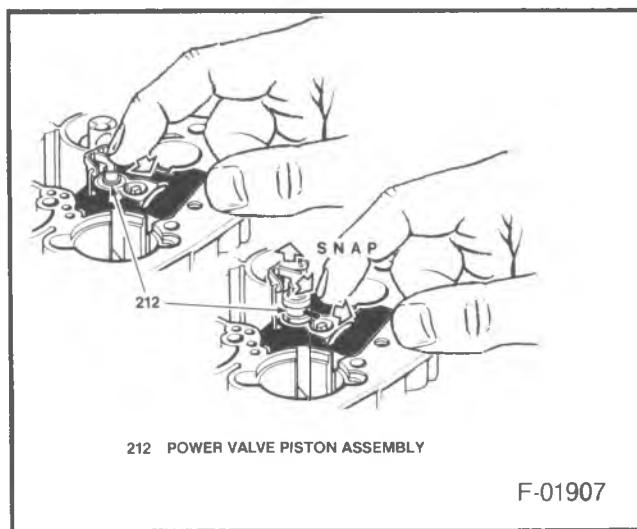

Figure 19 -- Removing Power Valve Piston Assembly
- Remove or Disconnect (Figures 19 - 20)
1. Power valve piston assembly (212) and primary metering rods (213).